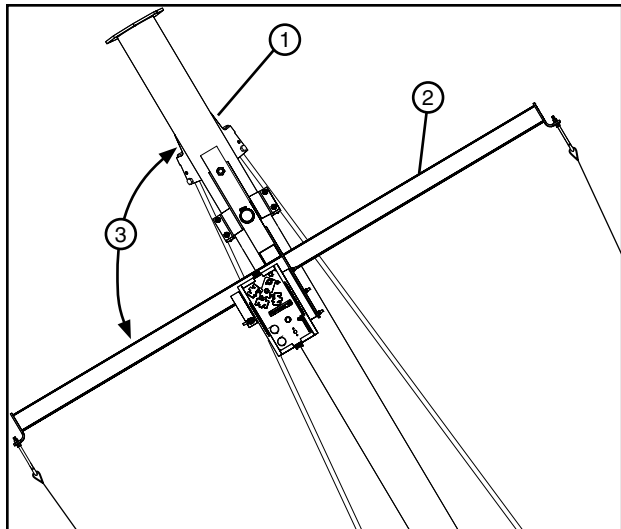

Figure 92-1 1. Span Pipe 2. T-Bar 3. 90 Degrees
1. Adjust the fixed end cable mount hook bolts until both the proper deflection of safety cable is achieved and the T-Bar is perpendicular (90 degrees) to the span pipe. See figure 92-1.